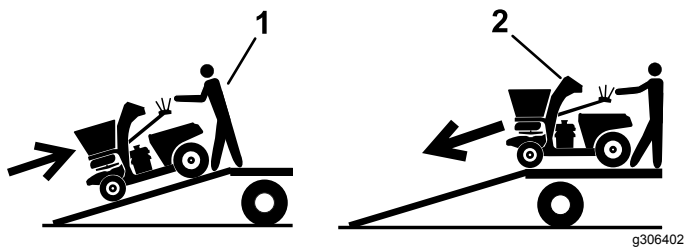

Figure 67
5. Back the machine up the ramp (Figure 67).